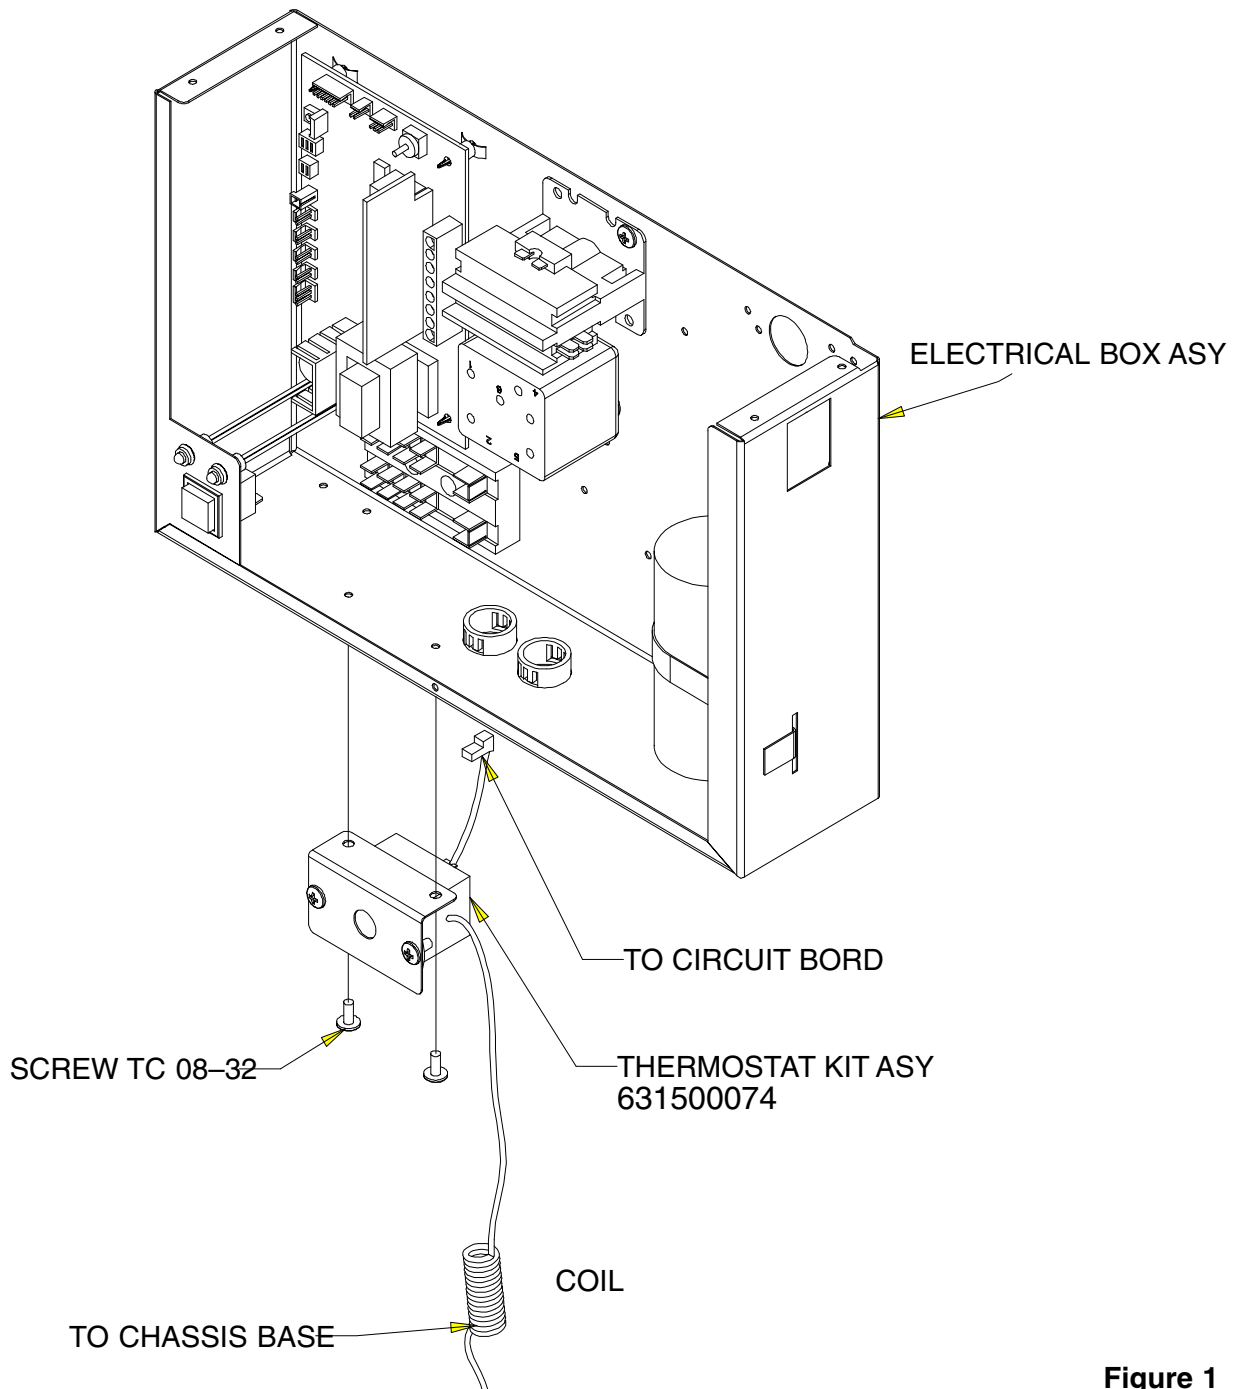

Figure 1
- A. Route wires and connector through grommet in electrical box (see Figure 1).
- B. Attach bin thermostat to electrical box with two 08-32 TC screws provided (see Figure 1).